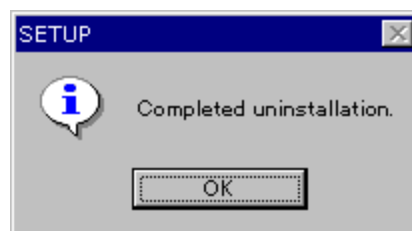

Fig. 10 Uninstall Completion Screen
- (2) Click [Yes] to start the uninstalling process. After the uninstallation is completed, Uninstall Completion screen shown in Fig. 10 appears.